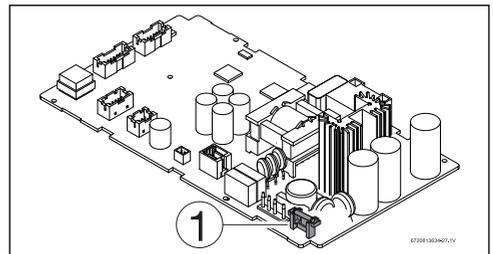

Fig. 26 Fuse position
- ▶ Check the fuse on the printed circuit board for electrical continuity, see fig. 26, [1].